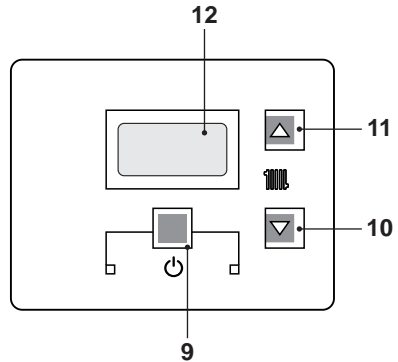

Fig. 7.8
- Press the 9 key for 2 seconds until  symbol appears on the display Fig. 7.8.
- Switch off the boiler by pressing the 9 (Fig. 7.8)key for 2 seconds until the  symbol appears on the LCD display (Fig. 7.7).
Press the reset key on the boiler control panel 9 (Fig. 7.8) to reset its functioning.